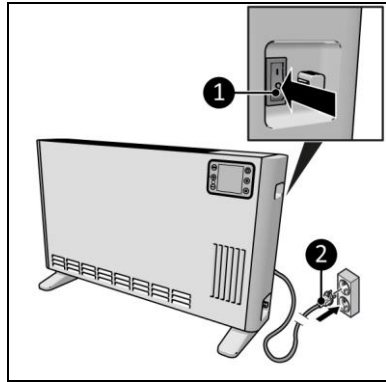

Figure 10
2. Make sure the ON/OFF switch is in the OFF position (Figure 10, pos. 1).
3. Place the power plug (Figure 10, pos. 2) into an earthed wall socket that is easily accessible. Use an earthed wall socket with a minimum power of 2400 Watt.
1. Make sure the ON/OFF switch is in the OFF position (Figure 10, pos. 1).
2. Disconnect the power plug from the power outlet (Figure 10).